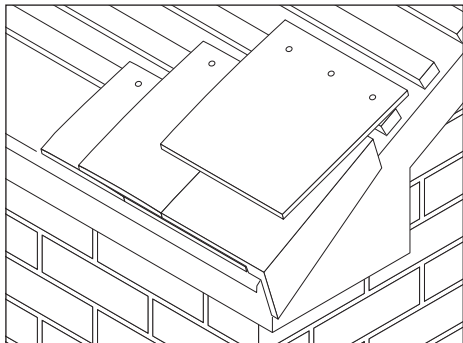

Fig. 9 – Tile-and-a-half used to break bond
- 6 Each alternate course should contain a tile-and-a-half to break bond and must be twice nailed (Fig. 9).